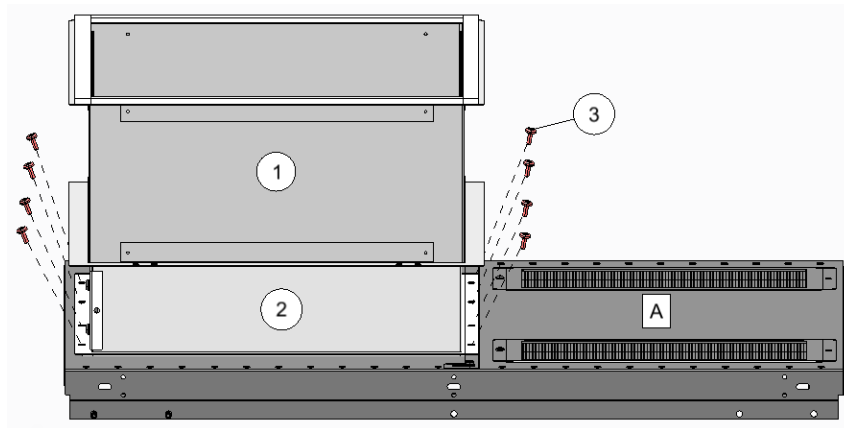

Figure 6: Secure Chimney Base to Roof of Enclosure
Refer to item (3) in Figure 6.